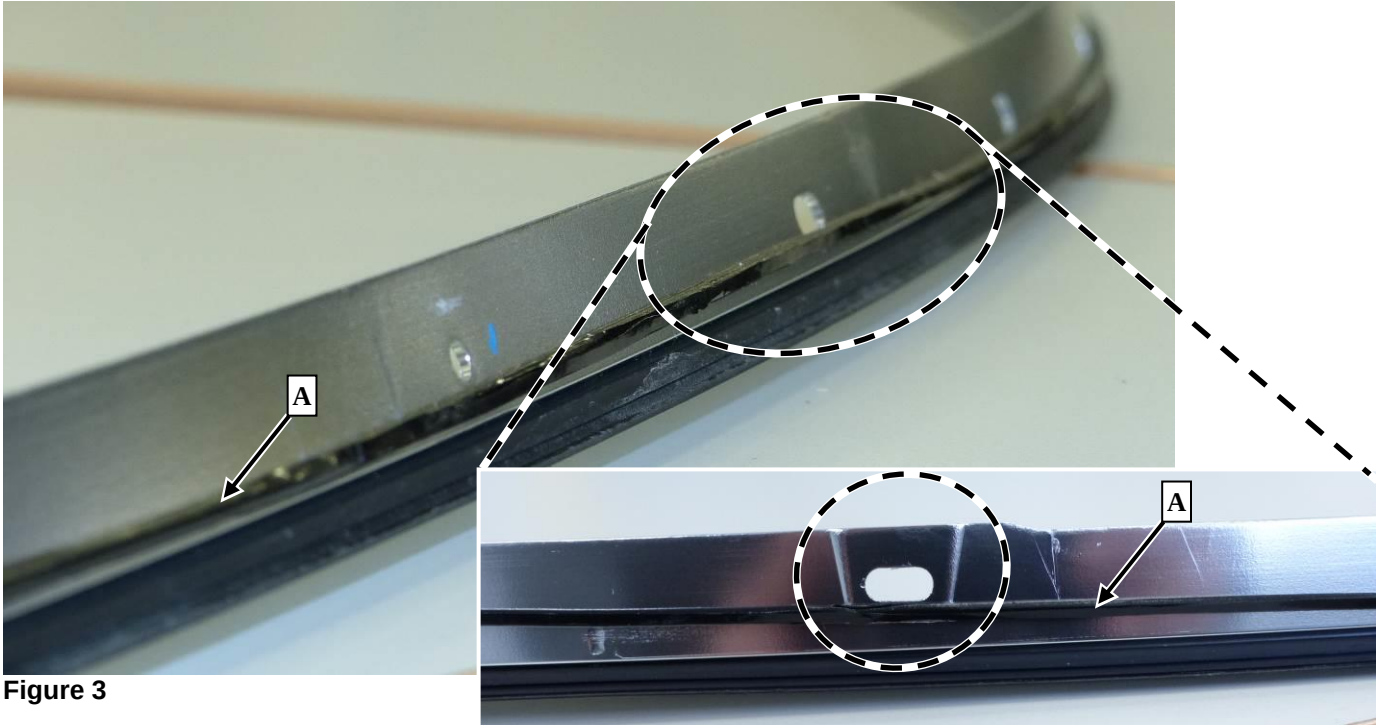
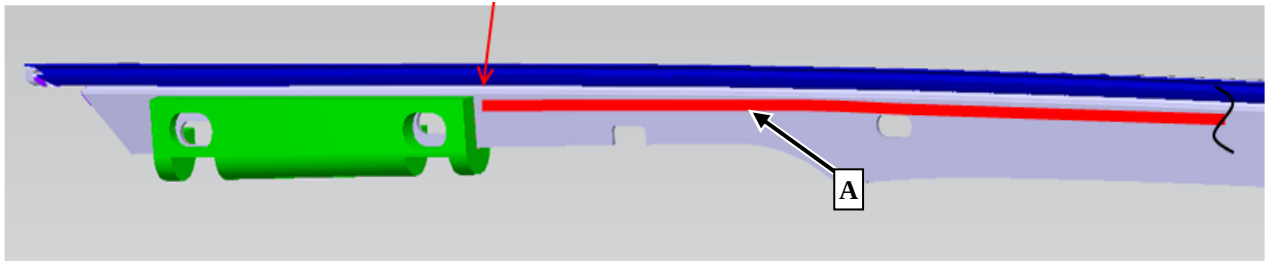

Figure 3
Figure 4 (*Start of the butyl cord at the front*)
3.  Attach the butyl cord (A, Figure 3) on the upper side of the mounting:
-  Fasten the butyl cord (A) parallel at a distance to the sealing and align it with edge of the elongated hole.
-  Refer to Figures 4 and 5 for the position of the butyl cord (A).